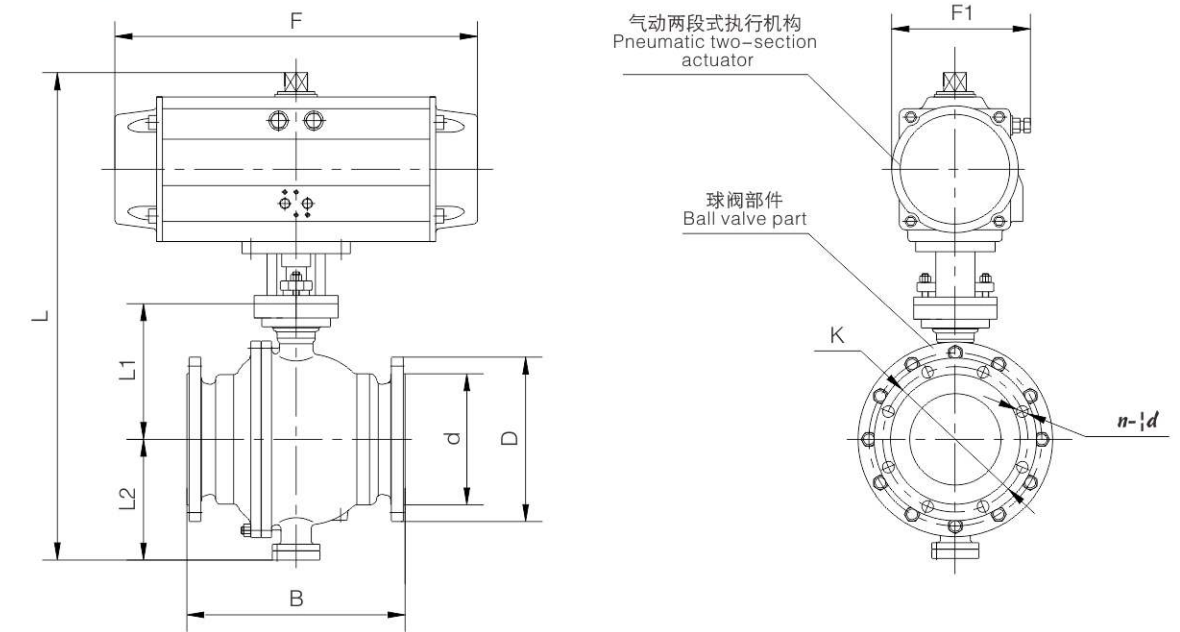

图10 气动单作用执行机构带微动开关控制球阀外型尺寸图
5.2 气动单作用执行机构带微动开关控制球阀外型及连接尺寸 (见图10和表6-7)
Outline and connection dimensions of pneumatic single acting actuator with micro switch control ball valve (see figure 10 and table 6-7)